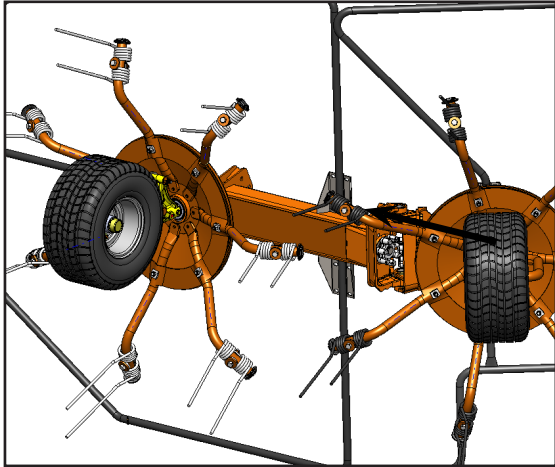

Figure 37
- 1) The spacing between the tines must be equal so that the tine from the outer wings fits in the center of the tines from the inner wing. (Figure 37)